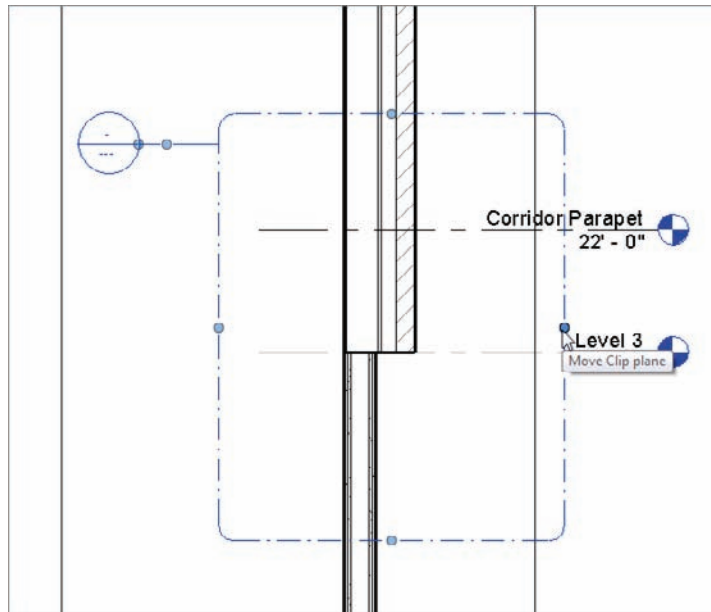

FIGURE 3.65 Selecting the crop region
12. With the section open, select the crop region, as shown in Figure 3.65.